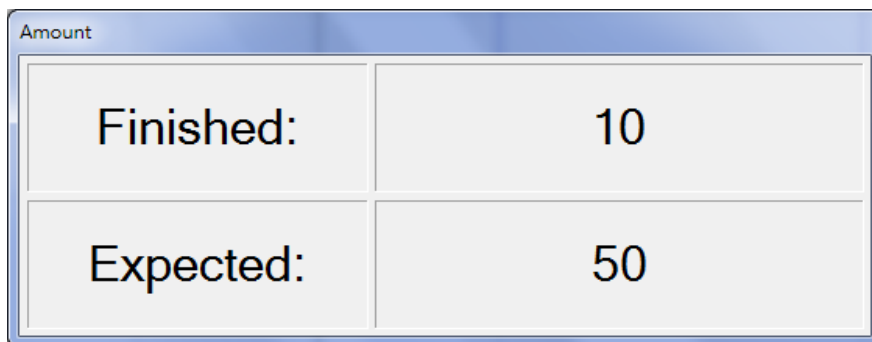

Fig. 3.1.08
**Larger Counting Window:** If users activate this option, then the system will display a large window to show the information of marking amount, see Fig.3.1.08.
If you need to adjust the maximum value of the marking speed range, please go to the "Global" page of the system "Property Table", click "Param Range Setting", and adjust the maximum value in the "Mark Speed Range". As shown in Figure 3.1.08.